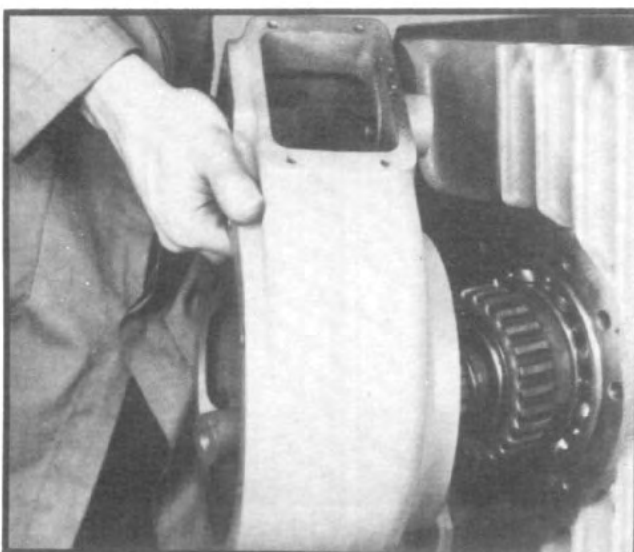

Fig. 16
14. Remove six capscrews holding lockout housing to main case. Remove the lockout housing by tapping it with a soft hammer, loosening it from the main case. (See fig. 16.)